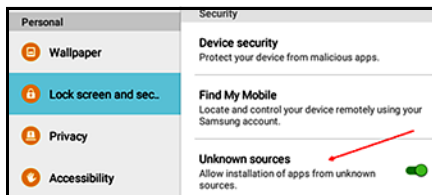

Figure 4: Security Settings
2. If the APP is from an SD card or the GE website, enable the *security option* in the tablet’s settings (see *Figure 4* below) to allow the installation of software from “*Unknown sources*” for this installation only.